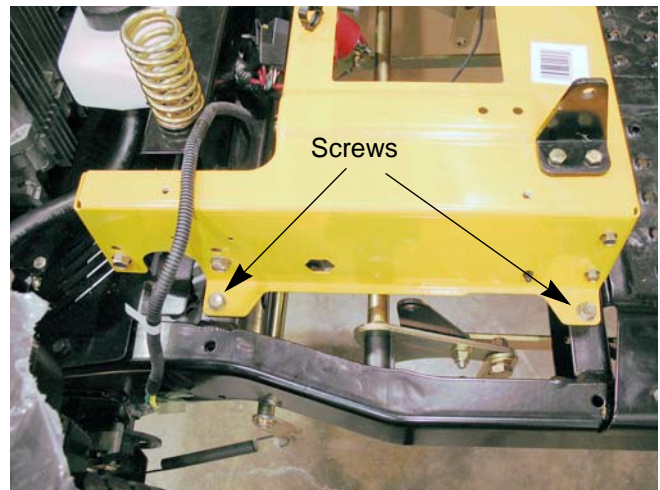

Figure 4.28
10. Remove the four screws (two on each side) that hold the seat box assembly to the frame using a 1/2" wrench. See Figure 4.28.